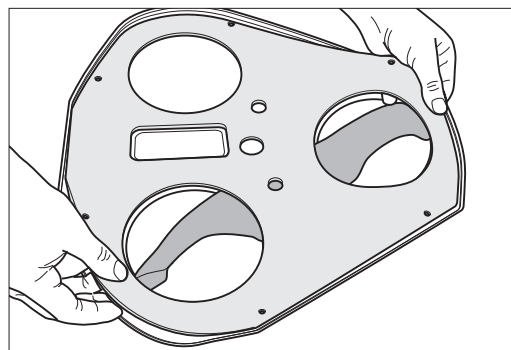

Fig. 55 Position the new sealing felt at one side first before fixing it completely in place.
- 8 Pull part of the protection paper off the new sealing felt, about a hand wide and position the seal exactly. Use the fixing holes in the cover for alignment (Fig. 55).